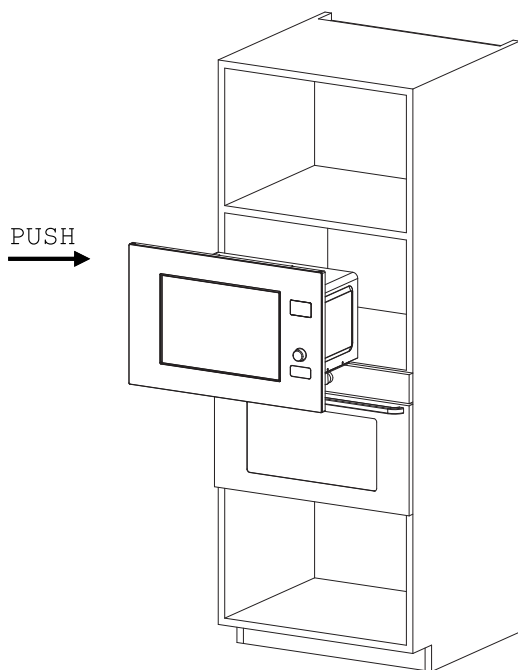

Fig. 1
② INSTALLATION:
a) Put the microwave oven into built-in cabinet and push it forward to the end. (Fig. 1)